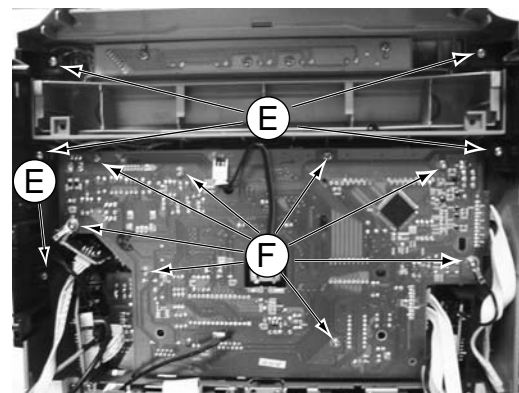

Figure 7
- 1) Loosen 5 screws 'E' to remove the Bracket CDC Right as shown in figure 7.
- 2) Loosen 5 screws 'F' to remove the KEY board figure 7.